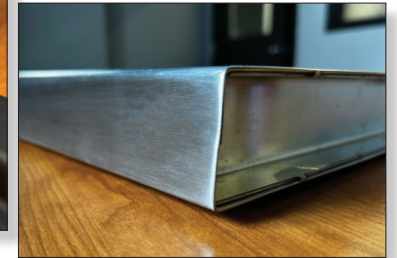

Figure 5 - Fully welded door with an open end channel
- Mill and grained finishes are available with traditional door cores such as honeycomb, vertically stiffened, and polystyrene. When used with traditional open (Refer to Figure 5) or closed (Refer to Figure 6) door end channels, these cores can be furnished with interlocking lockseam (Refer to Figure 7) or fully welded seam (Refer to Figure 5) door edges.